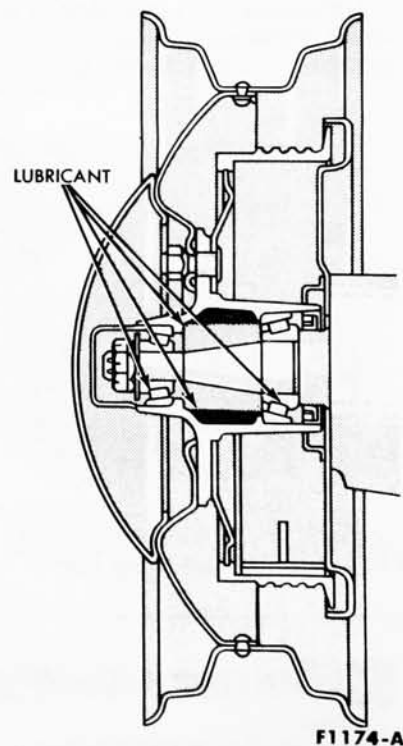

FIG. 8—Front Wheel Hub Lubrication
10. Pack the inside of the hub with specified wheel bearing grease. Add lubricant to the hub only until the grease is flush with the inside diameter of both bearing cups (Fig. 8).